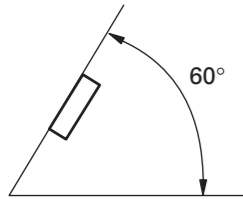

Fig. 5
- If installation angle exceeds 60° from horizontal, the Head Unit might not give its optimum performance. (Fig. 5)